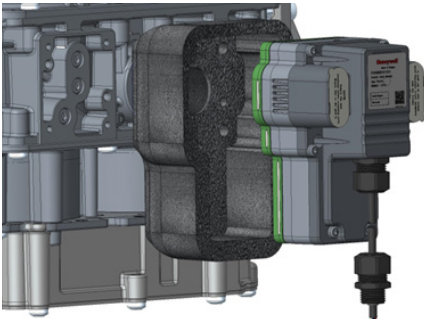

Fig. 6. FARMOD with insulation shoe.
3. Place the FARMOD into the insulation shoe and thread the long screws provided with the kit through the combination. Refer to Fig. 6.